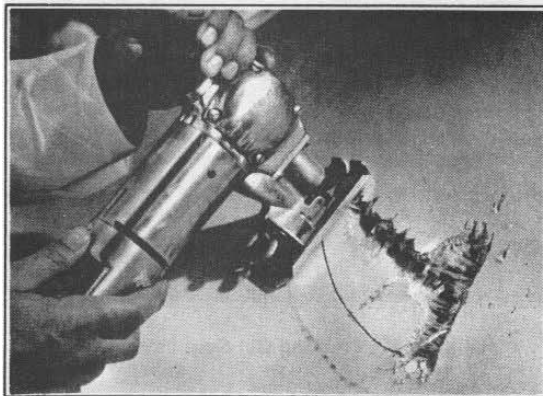

Figure 2-80. Sawing Out Damaged Area
2. Prepare injured area by cutting back fractured material to the sound part of the material. A keyhole or electric saber saw can be used to cut out the ragged edges. See Figure 2-80.